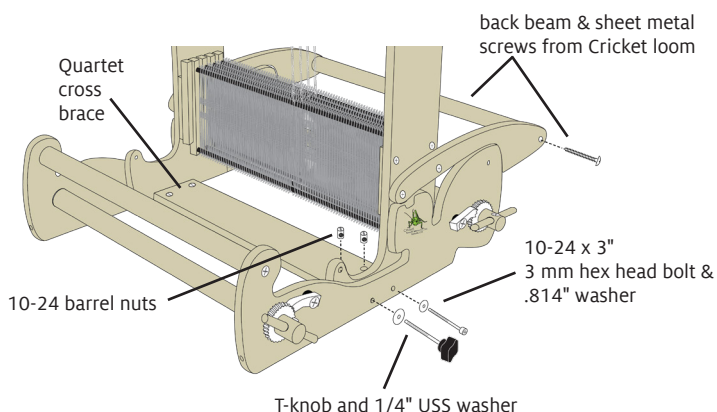

FIGURE 14: ATTACH QUARTET CROSS BRACE AND BACK BEAM—CRICKET STAND
26. Set the Quartet cross brace inside the castle, aligning all holes. Place one 10-24 barrel nut in each hole in the Quartet cross brace (Figure 14). Make sure the holes of the barrel nuts are perpendicular to the short edges of the cross brace.
27. Add a 1/4" USS washer to the shaft of a T-knob, then insert through the front hole in the loom side (Figure 14). Repeat on the other side of the loom. Tighten the knobs into the barrel nuts in the Quartet cross brace. These knobs have long shafts to hold your Cricket and Quartet on a Cricket Stand.
29. Attach the back beam to the Quartet beam extensions, using the parts you removed in step 23 (Figure 14).